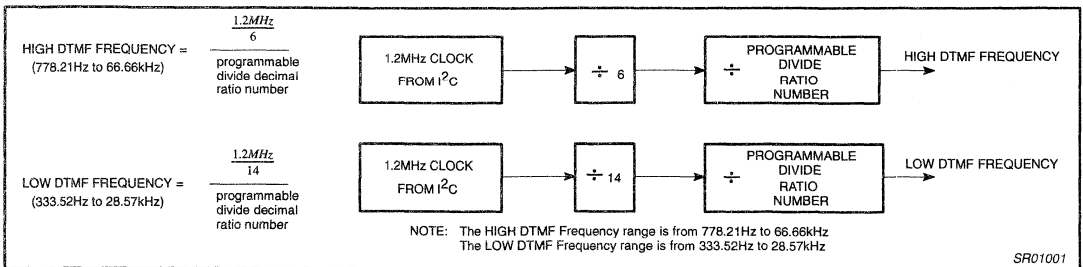

Figure 9. DTMF Formula
The DTMF generator generates its tones by using the 1.2MHz I2C clock and dividing it down to the desired frequency. There are high and low DTMF tones, so different divide ratios are used. To tailor the exact frequency, a programmable divide ratio number is provided to the designer. Figure 9 shows the basic scheme and the formulas to calculate the desired DTMF frequency.
Step 2: Use formulas in Figure 9 to calculate the programmable 'divide ratio number' for both High and Low tones.
- Using the formula in Figure 9,
- Calculate 'divide ratio number' using the formula in Figure 9,